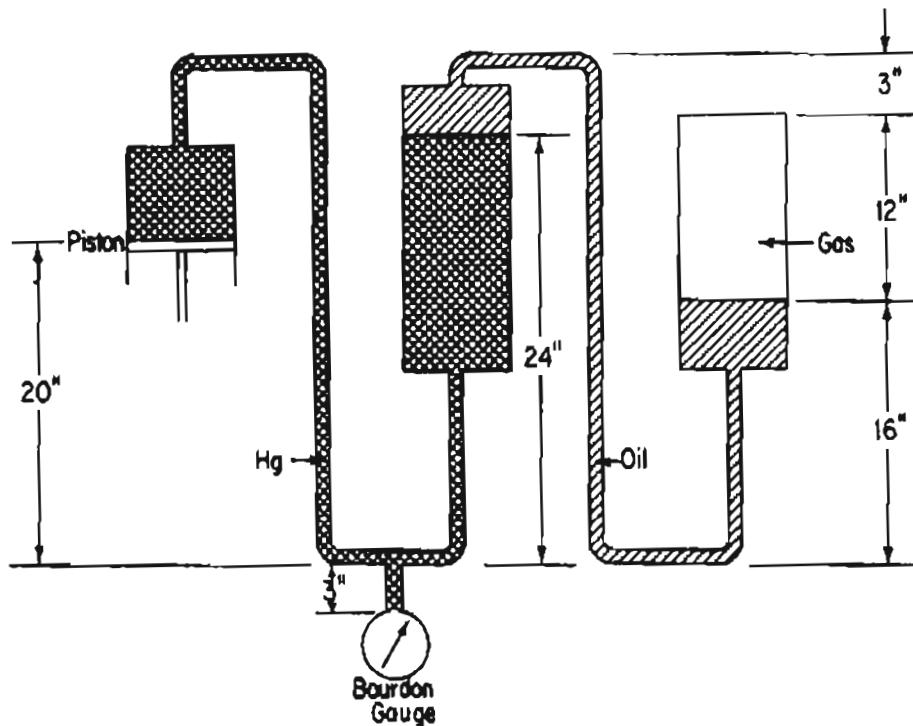

Figure P5.34
- \checkmark^{10^4} *** 5.34 Examine Figure P5.34. The barometric pressure is 720 mm Hg. The density of the oil is 0.80 g/cm^3 . The Bourdon gauge reads 33.1 psig. What is the pressure in kPa of the gas?